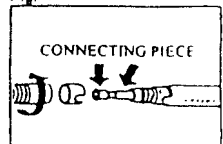

Fig. 5
1. Remove the inner tube and black part of the reservoir to refill with IF2005M or IF 8001 (fig. 5).